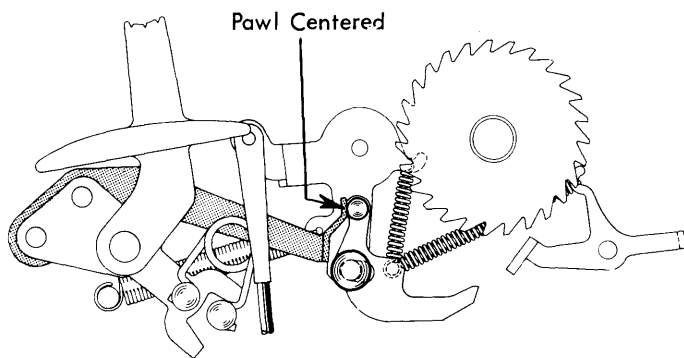

FIGURE 155. Vertical Adjustment Of Index Selection Cam
- b. Adjust the selection cam up or down so that the index pawl is centered on the cam surface with the selection lever in the single line space position (Fig. 155).